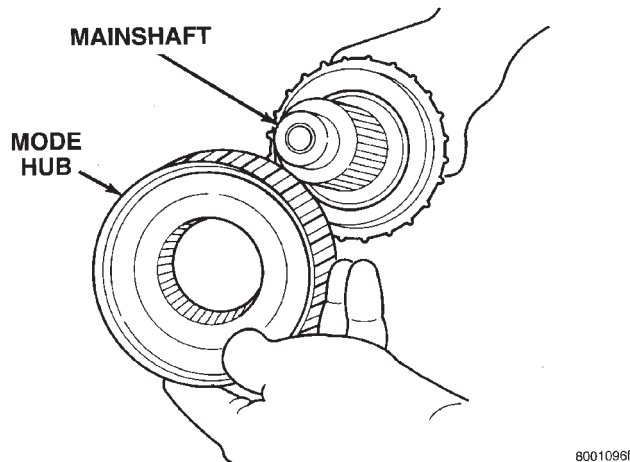

Fig. 29 Mode Hub Removal
(2) Slide mode hub off mainshaft (Fig. 29).